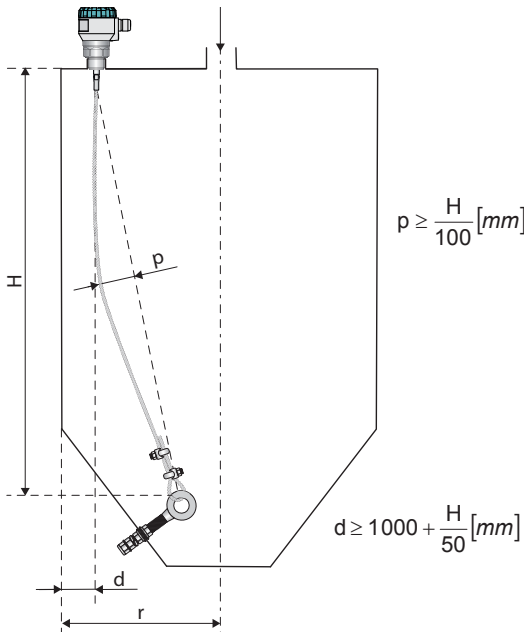

Fig. 19: Recommended installation of the product with anchoring on the same side of the silo
- If the ratio of silo width to depth is determined by formula: $r \geq 1000 + H/20$ [mm], the rope can be anchored also on the same side of the silo, see Fig 19.
same side of silo (Fig. 19)	$\geq 1000 + H/20$